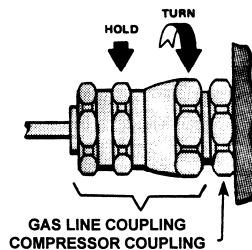

Figure 13 Connect Gas Line to Compressor or Cold Head
4. Connect the gas lines to the compressor's high-pressure (supply) and low-pressure (return) couplings. Use two wrenches to tighten the coupling. Torque all couplings to 47 ± 7 Nm (35 ± 5 ft. lbs.) See Figure 13. Tighten each coupling before proceeding to the next one.